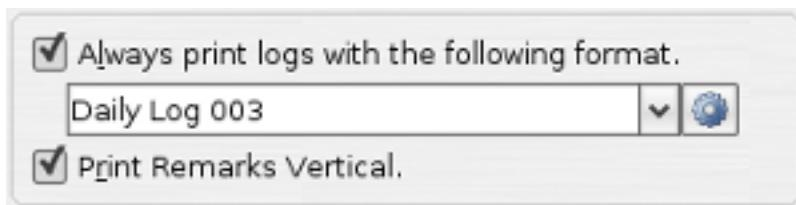

Figure 7.7. Log Format Settings
2. In the Log Format section, make sure the box "Always print logs with the following format" checked. Then in the box below select the desire default log format, see Figure 7.7, "Log Format Settings".
2. Under the log format section see Figure 7.7, "Log Format Settings" there is a checkbox label "Print Remarks Vertical". When this box is checked the log entries will be printed vertical, when the box is NOT checked the log entries will be printed horizontal in the remarks section.